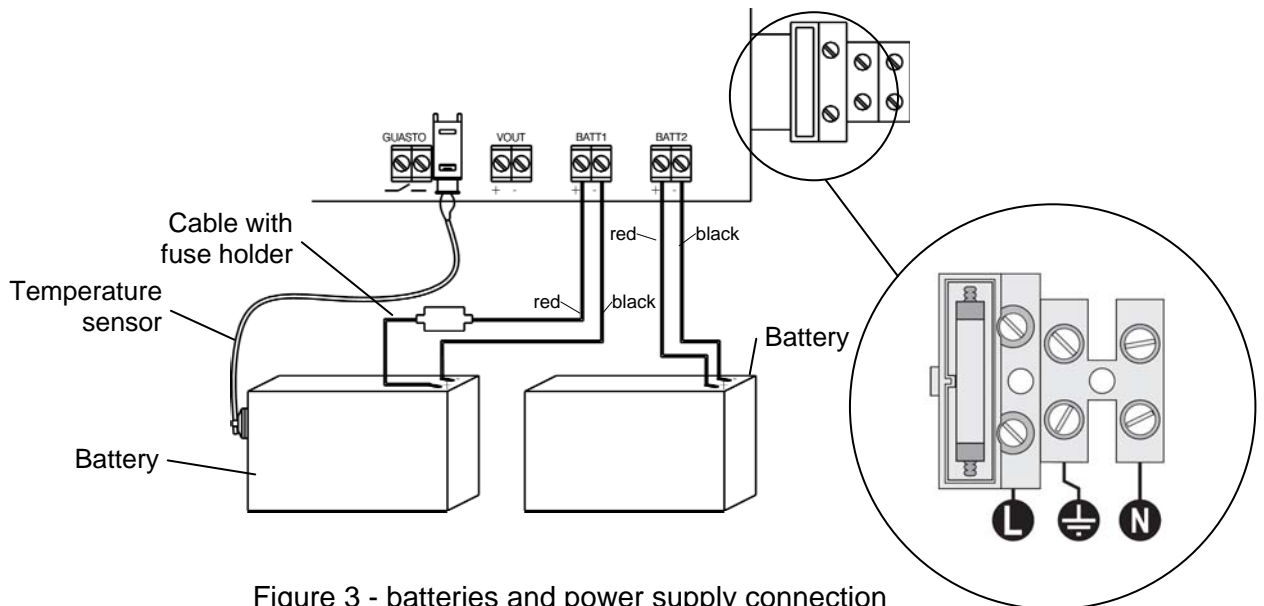

Figure 3 - batteries and power supply connection
- glue the temperature sensor on one of the two batteries (see figure 3)
- connect the mains power supply cable to the terminal strip with fuse holder as shown in figure 3 without connecting to mains